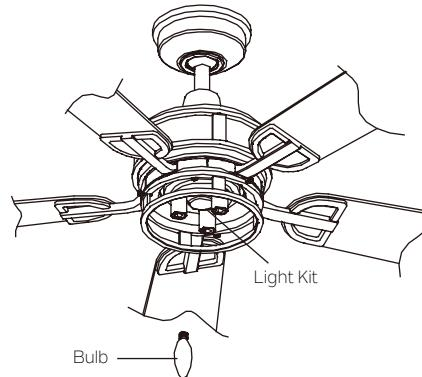

Fig. 23
**Step 1.** Install the 3, 4-watt B10 LED bulbs (included). (Fig. 23)